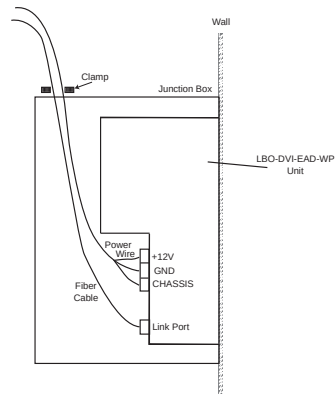
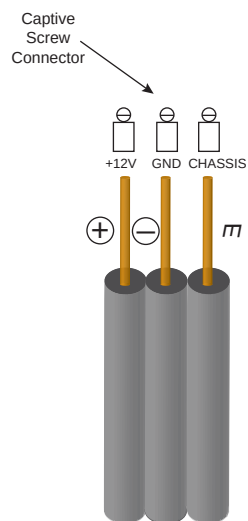

**Figure 2-6**
**Figure 2-7**
1. As shown in Figure 2-6, feed both fiber and power cables through the opening of the wall box, and secure the cables with cable clamps to provide strain relief.
3. Before connecting power wire to the LBO-DVI-EAD-WP unit, **make sure power supply is off**. Prepare the Positive (+12V) and Negative (GND or +12V return), and chassis ground (CHASSIS to earth ground) tip of the power wire as shown in Figure 2-7 to be directly plugged into the captive screw +12VDC connector of the LBO-DVI-EAD-WP units (see Figure 2-6). Make sure the polarity of the connection is correct. Insulate any exposed wire shields to prevent short circuits.